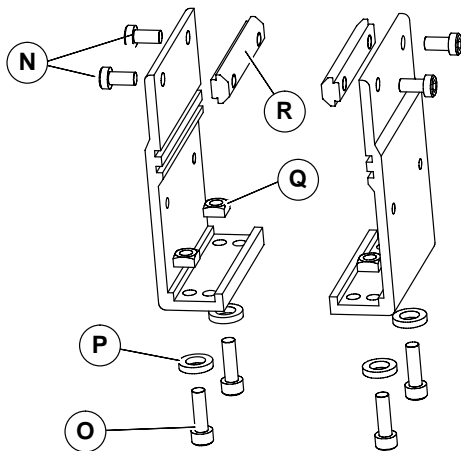
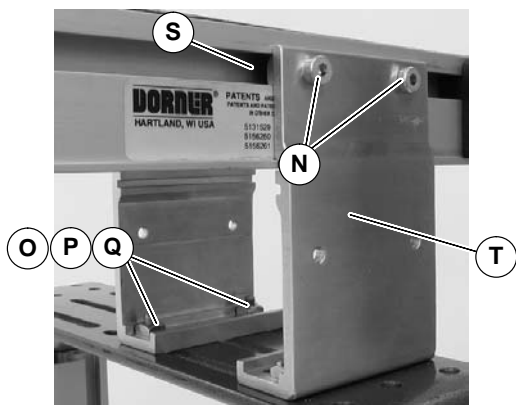

Figure 7
Figure 8
1. Locate mounting bracket assemblies. Exploded views are shown in Figure 7.
2. Remove screws (N and O of Figure 7), washers (P), nuts (Q) and T-bars (R) from brackets.
3. Insert T-bars (R of Figure 7) into conveyor side slots (S of Figure 8). Fasten brackets (T) to conveyor and T-bars (R) with mounting screws (N).